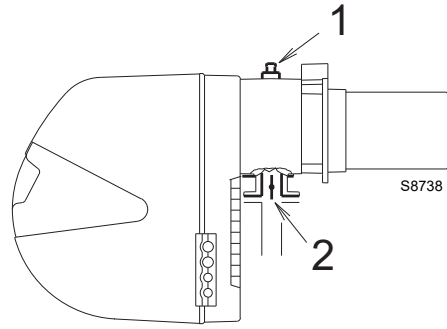

Fig. 23
Gas pressure measured at test point 1)(Fig. 23), with:
Pressure loss at gas butterfly valve 2)(Fig. 23) with maximum opening: 90°.
- subtract the combustion chamber pressure from the gas pressure measured at test point 1)(Fig. 23).
Gas pressure at test point 1)(Fig. 23) = 11.3 mbar
To calculate the required gas pressure at test point 1)(Fig. 23), set the maximum modulating output required from the burner operation:
- read, on the right (column 1), the pressure at the test point 1)(Fig. 23).
pressure required at test point 1)(Fig. 23).